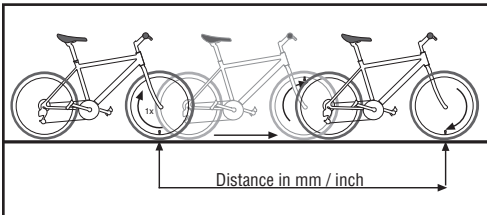

FIGURE 2
3. Perform roll-out test (most accurate): See Figure 2.